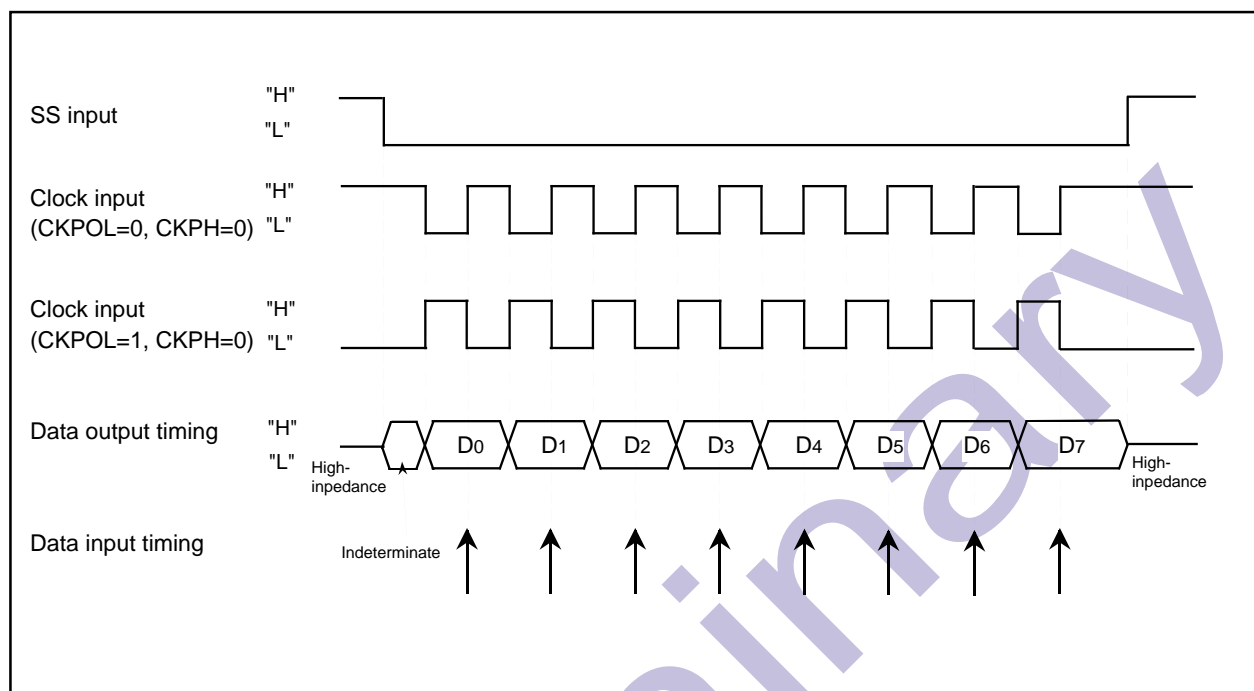

Figure 1.20.8. The transmission and reception timing (CKPH=0) in slave mode (external clock)
- With "0" for bit 1 (CKPH) of UARTi special mode register 3 (addresses 0325₁₆ and 02F5₁₆ [*i* = 3 or 4]), when an SSi input pin is H level, output data is high impedance. When an SSi input pin is L level, the serial transmission start condition is satisfied, though output is indeterminate. After that, serial transmission is synchronized with the clock. Figure 1.20.8 shows the timing.